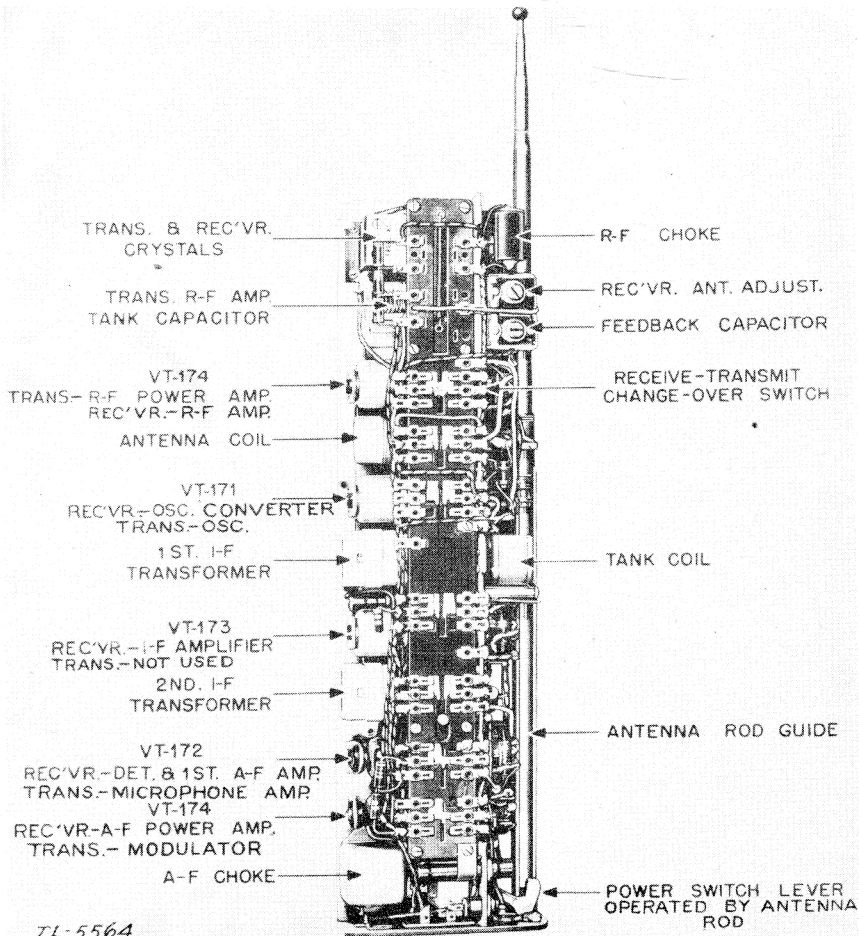

FIGURE 10.—Radio receiver and transmitter BC-611-(*)—front view of chassis.
41. Replacement of tubes.—Remove the chassis from the housing. To do this, unfasten the bottom cover of the housing and remove the batteries. Disconnect the microphone and earphone plugs from the terminal board on the end of the chassis by gently pulling out. Plugs and jacks are color coded with small spots of color: green for microphone and red for earphone. Remove the mounting screw in the top cover of the housing, and the chassis can be slid out of the bottom of the housing. Lift the tube retainer bracket at the top of the tube and remove the shield, if there is one. Insert a narrow rod through the bottom center of the tube socket and gently force the tube out. A small narrow-bladed screw driver will be found useful for this purpose. When replacing the tube, be sure it is the right type, that the base of the tube is so turned that the pins fit into the socket properly and are straight. The wide space between pins 1 and 7 of the tube can be used as a guide to line the tube with the socket. (See fig. 10.)
55. Removal and replacement of coils and crystals.—*a. Antenna coil.*—Remove the plug-in antenna coil by carefully lifting it out of its socket. See figure 10 for its location. In its place insert another coil of the desired frequency.
c. Crystals.—The crystals are mounted in plug-in type holders. (See fig. 10.) To remove a crystal, lift up the clamp located on top of the crystal holder. This clamp pivots on a stud fastened to the chassis. Place a small screw driver between the crystal holder and the socket and gently pry it up. To remove the other crystal holder, the same procedure is followed. Select a transmitter and a receiver crystal holder of the desired frequency (the frequency of the transmitter crystal will be the same as that of the coils, while the receiver crystal will be 455 kc higher in frequency). Insert the receiver crystal holder in the crystal socket marked REC. It should be inserted so that the frequency printed on the metal side faces out and the
70. Changing coils and crystals.—a. *Antenna coil.*—Remove the plug-in antenna coil by carefully lifting it out of its socket. See figure 10 for its location. In its place insert another coil of the desired frequency.
c. *Crystals.*—The crystals are mounted in plug-in type holders. (See fig. 10.) To remove a crystal, lift up the clamp located on top of the crystal holder. This clamp pivots on a stud fastened to the chassis. Place a small screw driver between the crystal holder and the socket and gently pry it up. To remove the other crystal holder, the same procedure is followed. Select a transmitter and a receiver crystal holder of the desired frequency. (The frequency of the trans-